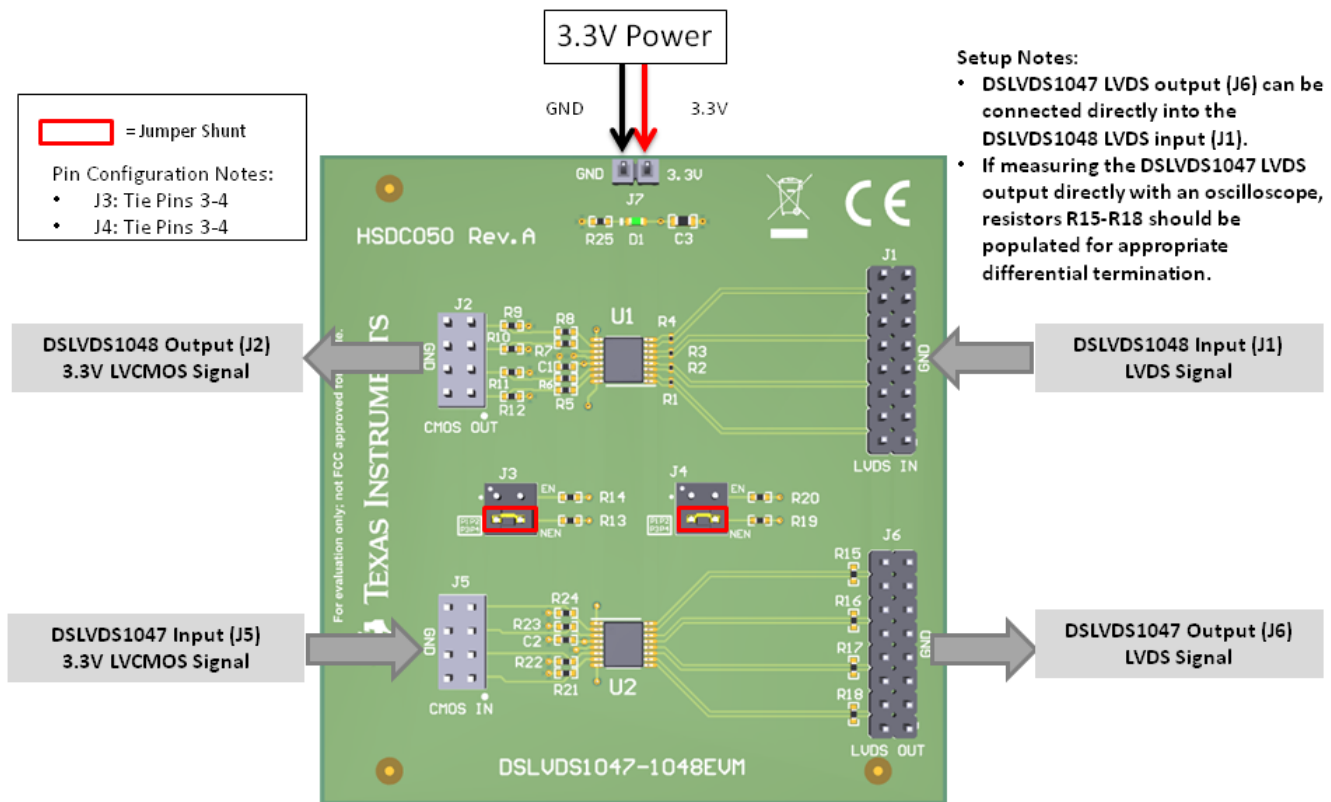

Figure 4. DSLVDS1047-1048EVM Setup Configuration
For hardware setup and connections, reference the diagrams in Figure 3 and Figure 4.
2. Install a shunt jumper on J3 Pins 3-4 to tie DSLVDS1048 NEN to GND and install a shunt jumper on J4 Pins 3-4 to tie DSLVDS1047 NEN to GND for appropriate operation, as shown in Figure 4.
The following plots show typical waveforms measured on the DSLVDS1047-1048EVM inputs and outputs using the hardware setup in Figure 4. For these measurements, the following parameters were used: